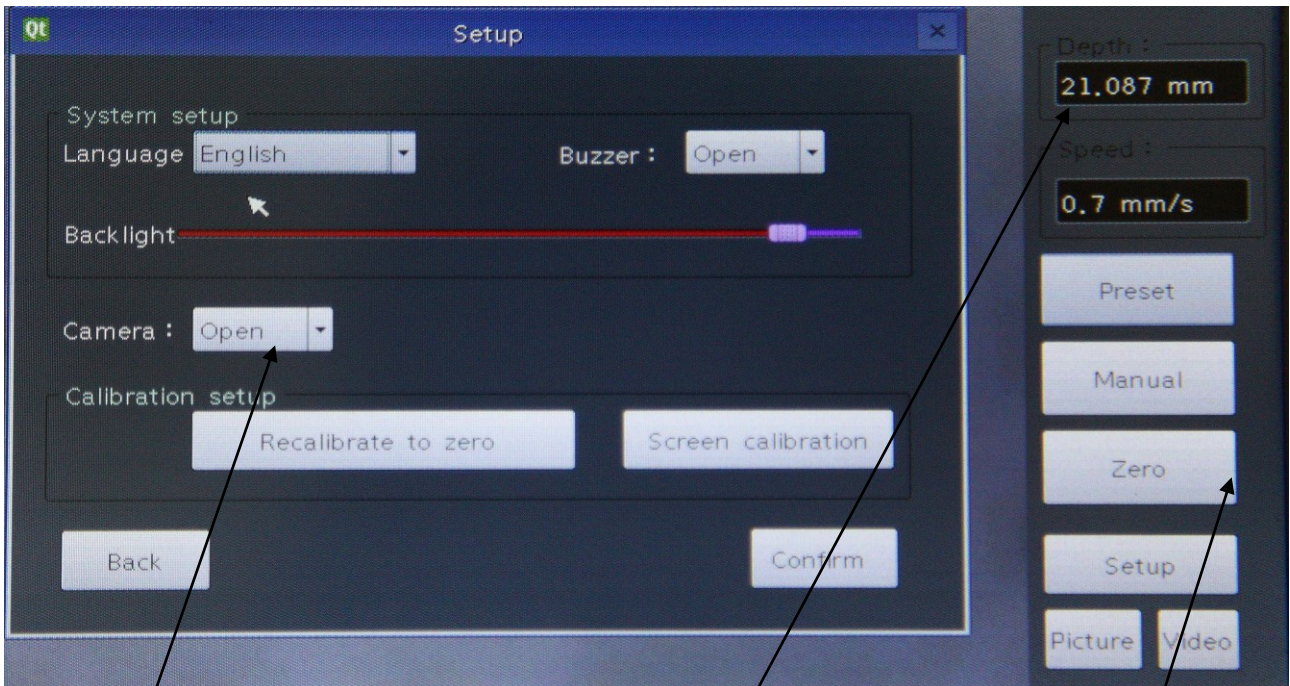

Figure 2
3.3.2The main interfaces as shown in Figure 2: